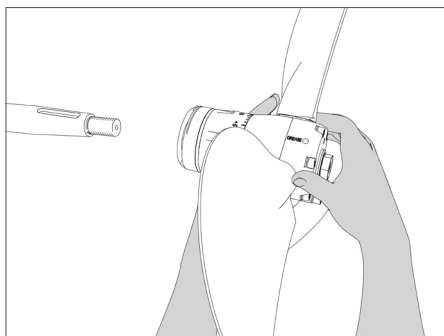
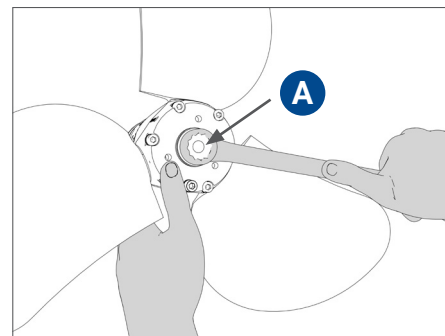

FIG. 6 | Propeller insertion onto the shaft
FIG. 8 | Lock nut tightening
- Engage the propeller assembly onto the shaft without a key (**Fig. 6 and 7**), hold it in place and tighten the nut **A** until the end (**Fig. 8**).